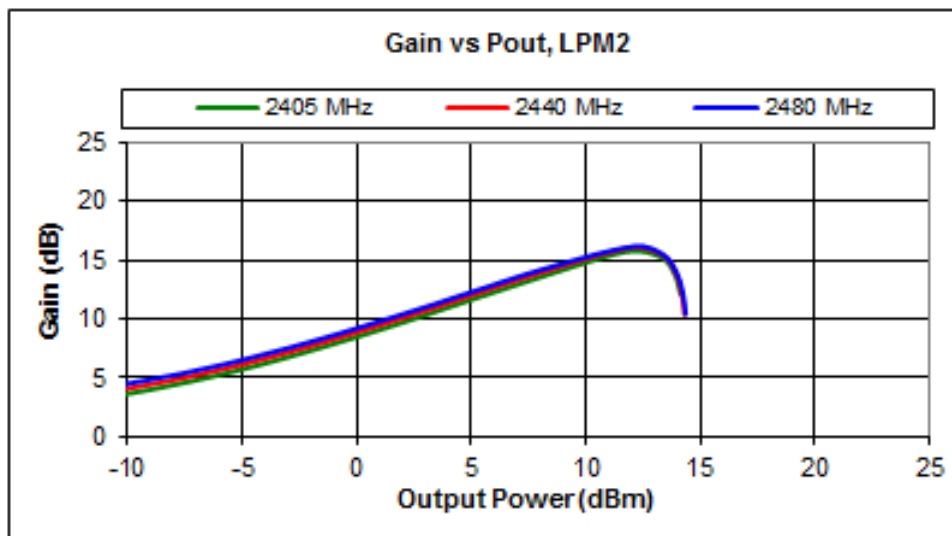

Figure 12: SKY66112-11 Gain vs. P_{out}, LPM2
- **LPM2:** Low Power Mode 2, where $V_{CC2} = 1.2\text{ V}$, $V_{CC1} = 1.8\text{ V}$ and $V_{DD} = 3.0\text{ V}$ @ $P_{OUT} = +13\text{ dBm}$, $P_{IN} = -3\text{ dBm}$ (see Figure 12).